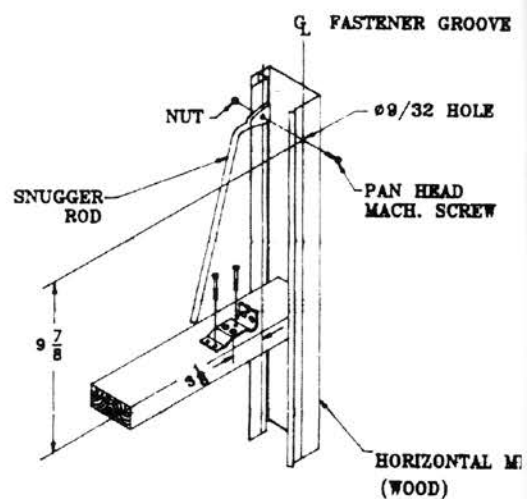

Figure 10
Select a horizontal door member that is at a convenient height. Drill one  $\frac{9}{32}$ " diameter hole in the vertical door member (see Figure 10). Slip rod support on straight end of snugger rod and properly position assembly to determine proper location of rod support. Fasten rod support with 2 ring nails as shown.
Slip the larger link on the end of the chain over the snugger rod and insert snugger rod into the rod support. Secure the opposite end to vertical member using (1)  $\frac{1}{4}$ " fastener and nut as shown. Figure 10.